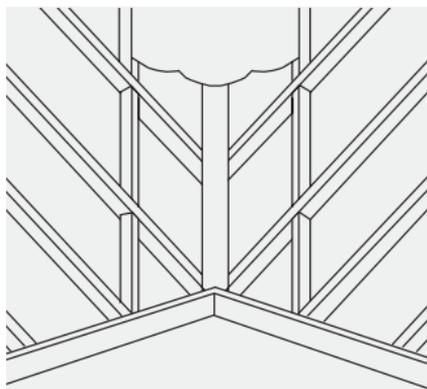

Fig. 68 – Use of support noggins
- 3 The width of the valley boards should extend by a minimum of 50mm beyond the edge of the valley trough. For overlaid boards on rafter spacings above 450mm, it is recommended that support noggins of 75 x 50mm are fixed under the outer edge of the valley board between the rafters (Fig. 68).